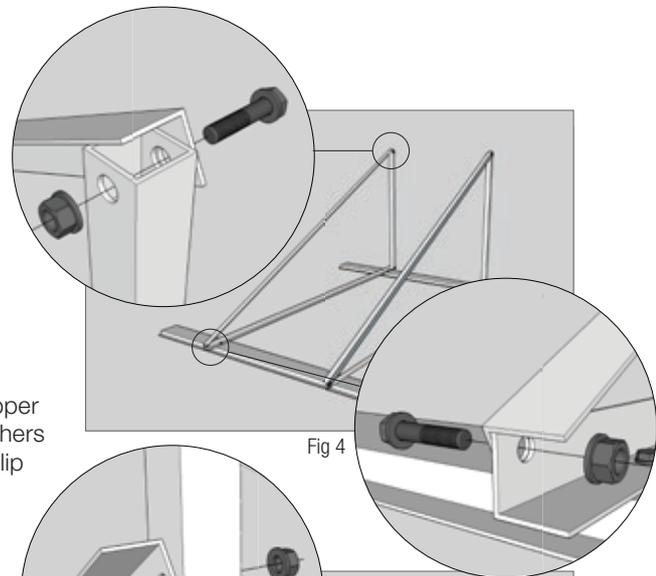

Fig 4
6. Position the top rail from the front edge of the bottom rail to the top of the square legs (Fig 4). Note: Please ensure the upper lip on both rails face one another